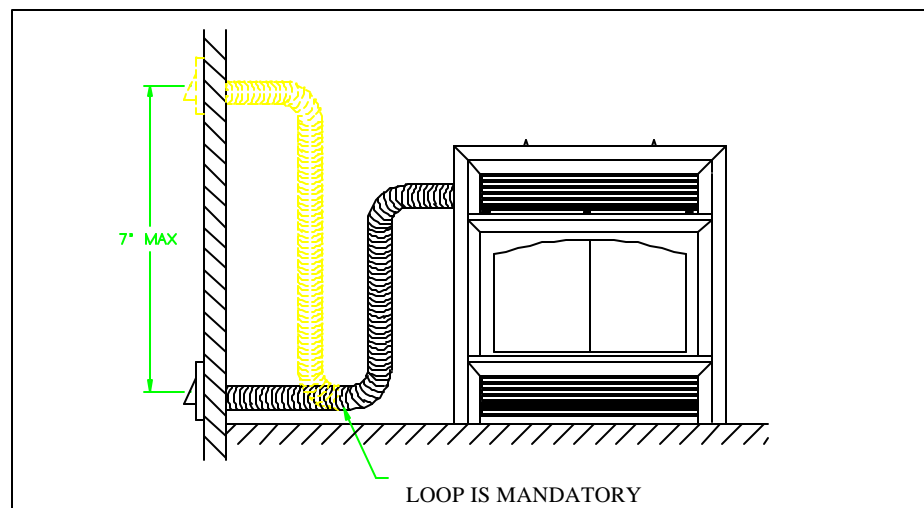

Figure 8a
7. It is recommended to install the outside air register at floor level. However, if you must raise the air register above the fireplace level, you will have to make a loop to the floor with the flexible pipe to prevent from causing a draught in the outside air register (see Figure 8a).